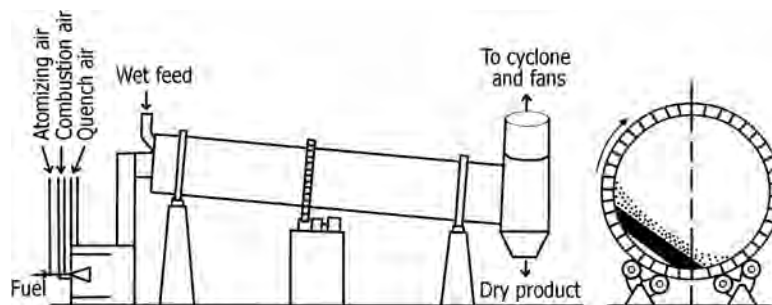

FIGURE 18.29 Simplified diagram of a direct heat rotary dryer.
- Figure 18.29 illustrates a simplified diagram of a rotary dryer.